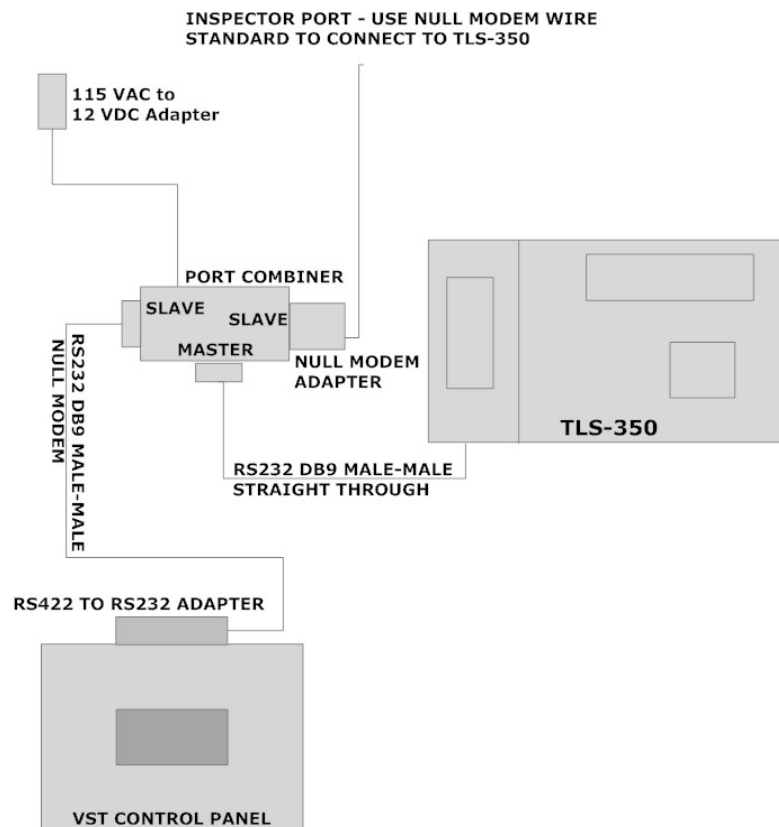

Figure 14: RS422 to RS232 Adapter to TLS-350 Connection - Option B Using a Port Combiner
- Using the 6 foot RS232 Null Modem (DB9 Male to Male) serial cable supplied with the VST *Green Machine*, connect one end of the serial cable into the RS232 port on the Adapter located on top of the VST Green Machine Control Panel and the other into the slave connection on the Port Combiner. If a longer cable is needed it may be ordered, however the cable length should not exceed 50 feet. Connect one end of the RS232 Straight Through DB9 Male to Male cable to the Master port on the Port Combiner and the other end directly to the TLS-350 Multi-port MODBUS card. Secure these connections. This leaves the second slave port open for the inspector's use. Install the Null Modem adapter to this port. Finally set the communications setting for the COM 6 in the TLS-350 to: 9600 BPS, 8 data bits, 1 stop bit, No parity. **See figure 14.**